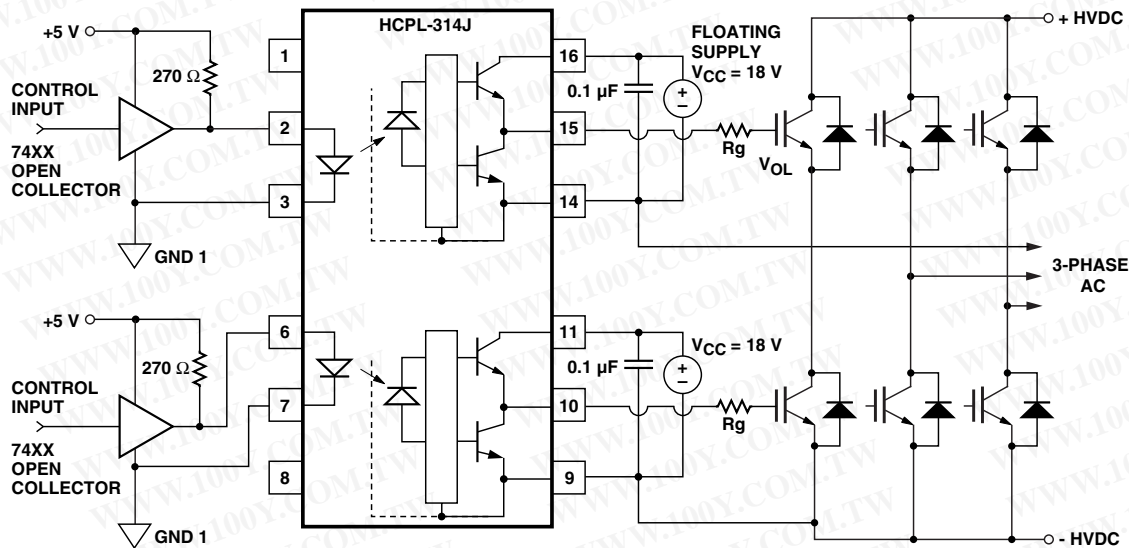
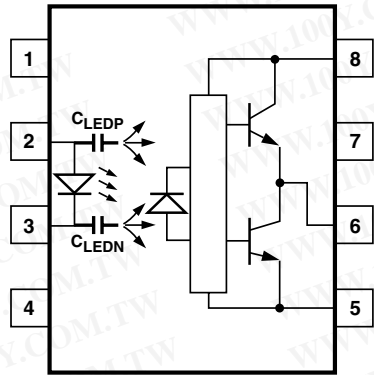
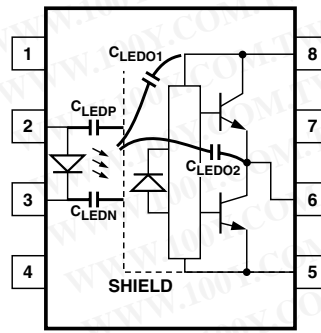
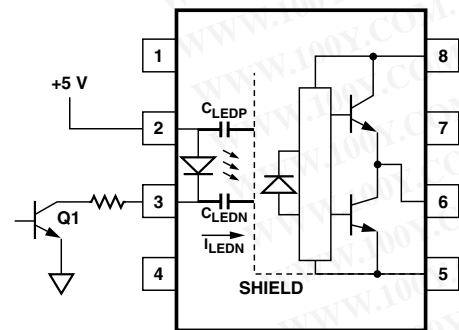

Figure 19. Recommended LED Drive and Application Circuit for HCPL-314J.
Figure 21. Optocoupler Input to Output Capacitance Model for Unshielded Optocouplers.
Figure 22. Optocoupler Input to Output Capacitance Model for Shielded Optocouplers.
Figure 24. Not Recommended Open Collector Drive Circuit.
To keep the IGBT firmly off, the HCPL-314J has a very low maximum V_{OL} specification of 1.0 V. Minimizing R_g and the lead inductance from the HCPL-314J to the IGBT gate and emitter (possibly by mounting the HCPL-314J on a small PC board directly above the IGBT) can eliminate the need for negative IGBT gate drive in many applications as shown in Figure 19. Care should be taken with such a PC board design to avoid routing the IGBT collector or emitter traces close to the HCPL-314J input as this can
result in unwanted coupling of transient signals into the input of HCPL-314J and degrade performance. (If the IGBT drain must be routed near the HCPL-314J input, then the LED should be reverse biased when in the off state, to prevent the transient signals coupled from the IGBT drain from turning on the HCPL-314J.) An external clamp diode may be connected between pins 14 & 15 and pins 9 & 10 (as shown in Figure 19) for the protection of HCPL-314J in the case of IGBTs switching inductive load.
Step 1: Calculate Rg minimum from the IOL peak specification. The IGBT and Rg in Figure 24 can be analyzed as a simple RC circuit with a voltage supplied by the HCPL-314J.
where $KICC \cdot Qg \cdot f$ is the increase in ICC due to switching and KICC is a constant of 0.001 mA/(nC*kHz). For the circuit in Figure 19 with IF (worst case) = 10 mA, Rg = 32 Ω, Max Duty Cycle = 80%, Qg = 100 nC, f = 20 kHz and TMAX = 85°C:
Without a detector shield, the dominant cause of optocoupler CMR failure is capacitive coupling from the input side of the optocoupler, through the package, to the detector IC as shown in Figure 21. The HCPL-314J improves CMR performance by using a detector IC with an optically transparent Faraday shield, which diverts the capacitively coupled current away from the sensitive IC circuitry. However, this shield does not eliminate the capacitive coupling between the LED and optocoupler pins 5-8 as shown in Figure 22. This capacitive coupling causes perturbations in the LED current during common mode transients and becomes the major source of CMR failures for a shielded optocoupler. The main design objective of a high CMR LED drive circuit becomes keeping the LED in the proper state (on or off) during common mode transients. For example, the recommended application circuit (Figure 19), can achieve 10 kV/μs CMR while minimizing component complexity.
The open collector drive circuit, shown in Figure 24, can not keep the LED off during a $+dV_{CM}/dt$ transient, since all the current flowing through CLEDN must be supplied by the LED, and it is not recommended for applications requiring ultra high CMR_L performance. The alternative drive circuit which like the recommended application circuit (Figure 19), does achieve ultra high CMR performance by shunting the LED in the off state.